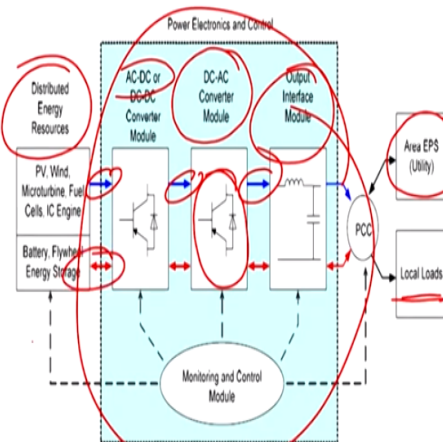

Fig.1: A Typical DE power electronic systems
- A generalized block diagram representation of power electronics interface with distributed energy systems is shown in Figure 1.
- In Fig.1 four major modules of power electronic interfaces are shown. These are source input converter, an inverter module, the output interface module and the controller module.
- The blue unidirectional arrows depict the power flow path for the distributed energy (DE) sources whereas the red arrows show the bidirectional power flows for the DE storages.
Now, for the storage system, bidirectional flow between the storage and the utility is required. So you can charge or discharge battery for the system if you require bidirectional flow. From the figure 1 four major module of the power electronics interface as shown. These are source input converter and inverter module, the output interface module and the controller module.